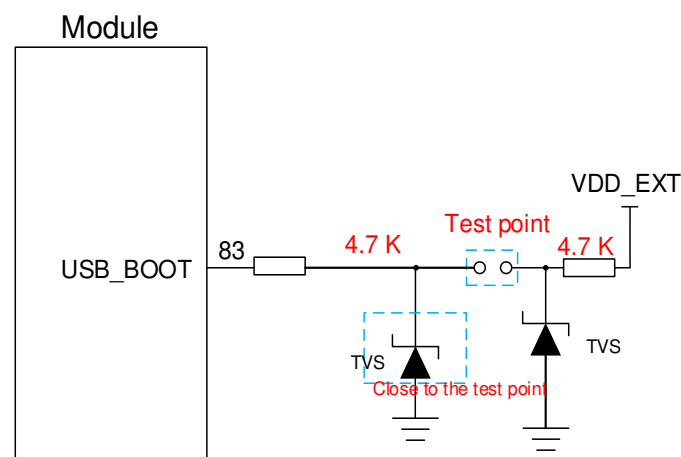

Figure 29: Reference Design of USB_BOOT Interface
2. When using MCU to control the module entering forced download mode, follow the above timing. Connecting the test points as shown in **Figure 29** can manually force the module into download mode.